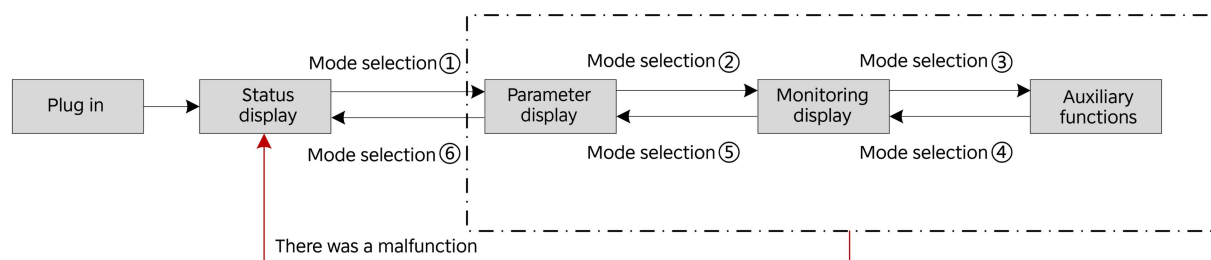

Fig. 9-y. Panel Operation Logic Flowchart
- Press the “M” key to switch between different modes, as shown in Fig. 9-y.